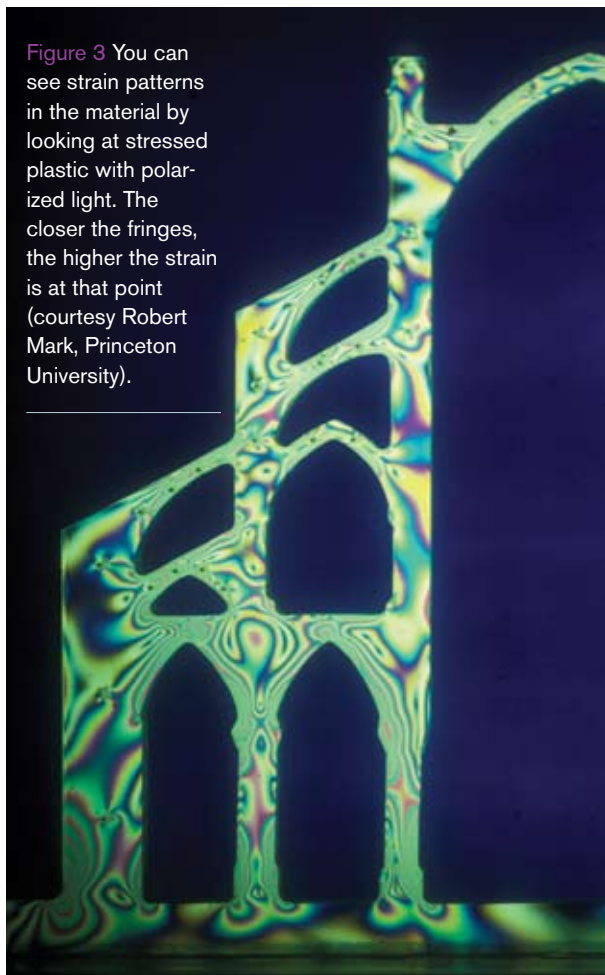

**Figure 1** The most common type of strain gauge is made from a metal foil (courtesy Omega Engineering).
**S**train gauges are the fundamental sensing elements for many types of sensors, including pressure sensors, load cells, torque sensors, and position sensors. Most strain gauges are foil types, available in a wide choice of shapes and sizes to suit a variety of applications (**Figure 1**). They consist of a pattern of resistive foil, which is mounted on a backing material. They operate on the principle that, as you subject the foil to stress, the resistance of the foil changes in a defined way. Foil gauges provide the ultimate in precision, but they also are expensive and provide small signals that are difficult to amplify. Strain gauges can also be silicon, in which metal is deposited in a thin-film semiconductor process on the silicon die. That die, often a MEMS (microelectromechanical system), forms the bendable diaphragm that responds to pressure changes. The same silicon die that carries the diaphragm structure can also have circuitry to amplify and linearize the output and compensate for any temperature effects.